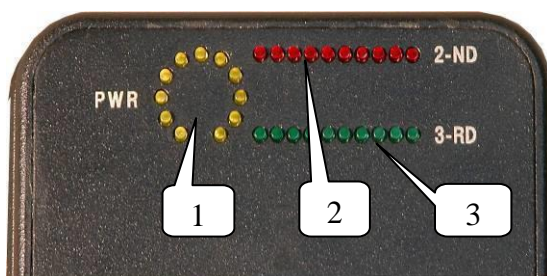

Fig. 2
4.1. The receiving-transmitting antenna unit with built-in LED indicators (shown in Fig. 2) is used for:
- Indication of the probing signal levels (1) as well as of the 2nd (2) and 3rd (3) harmonics levels (Fig. 2).